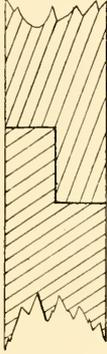

FIG. 279.
*Joggle.*—In the shipwright's craft, carpentry, and masonry, a notch or notches forming a box scarp to enable two pieces of wood, &c., to fit together. The heels of timbers are sometimes joggled to the keel in this manner. (Fig. 279.) This is also a "box scarp."